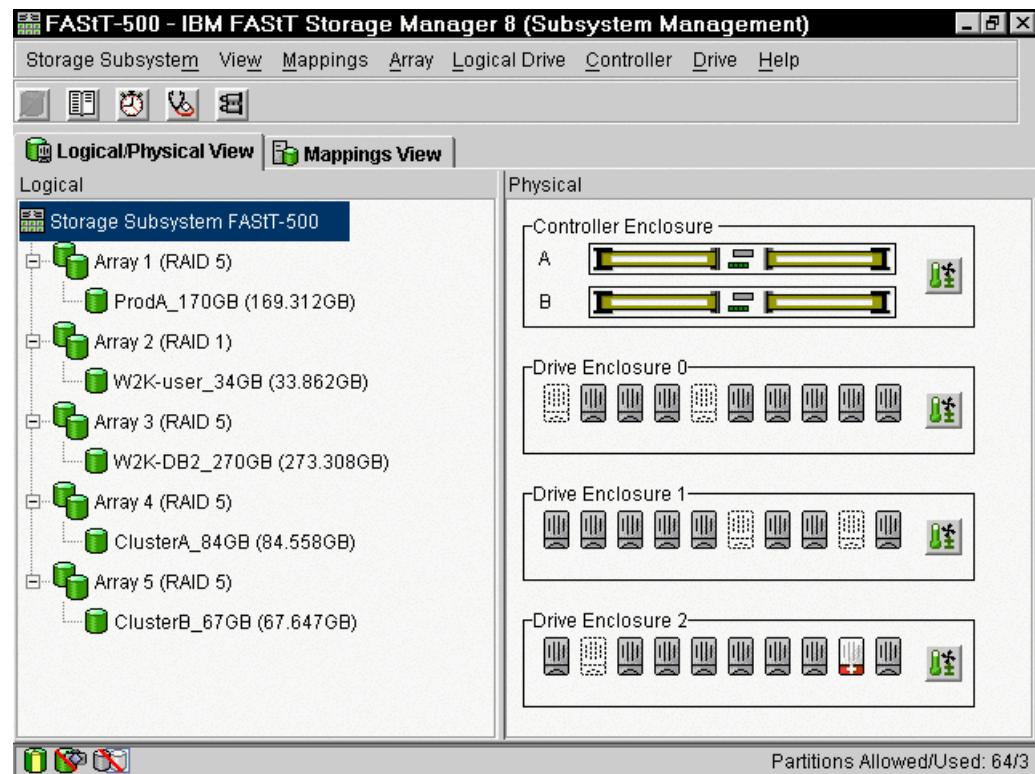

Figure 7-17 Logical/Physical View after the update
6. Verify that your configuration was successfully maintained. Open the Storage Subsystem Management window. Under the **Logical/Physical View** tab (Figure 7-17), visually check to see if the arrays look OK.